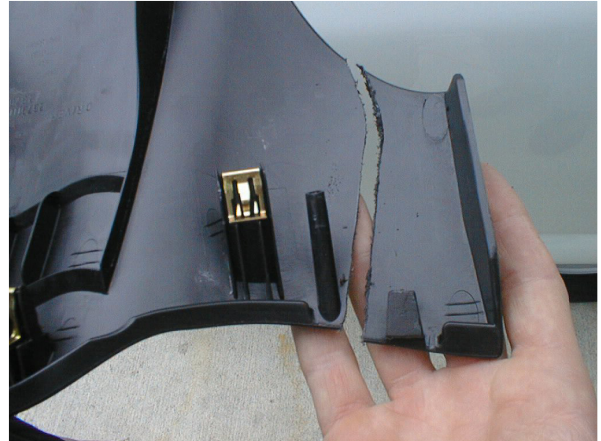

Figure 90. Modify Driver's Side Dash Cover
5. Modify the driver's side dash cover, closest to the doghouse (see Figure 90).